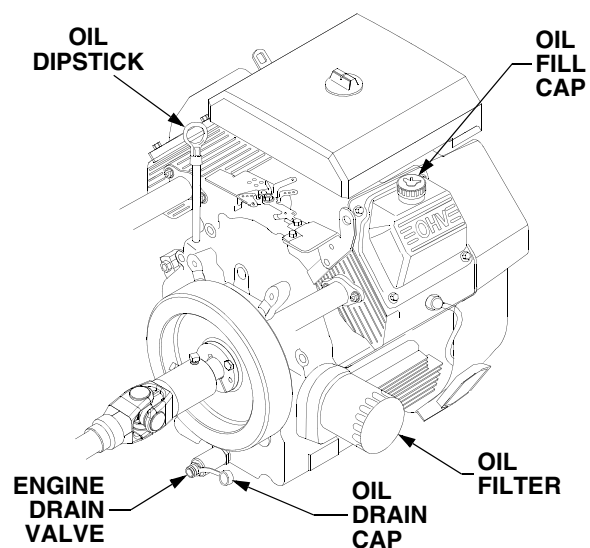

Figure 49
- Remove the dipstick and oil fill cap from the engine. Refer to Figure 49.
- Locate the engine drain valve on the rear of the engine (See Figure 49). Place a suitable container below the open end of the drain valve to collect the old oil.
- Pull the oil drain cap off the end of engine drain valve. To prevent loss of the cap, do not remove the cap's retaining ring from the drain valve. See Figure 49.
- Remove the filter by turning it counterclockwise using an automotive type filter wrench to loosen. See Figure 49.
- Push the drain valve fully inward until you are able to turn the valve clockwise to lock in the closed position. Refer to Figure 49.